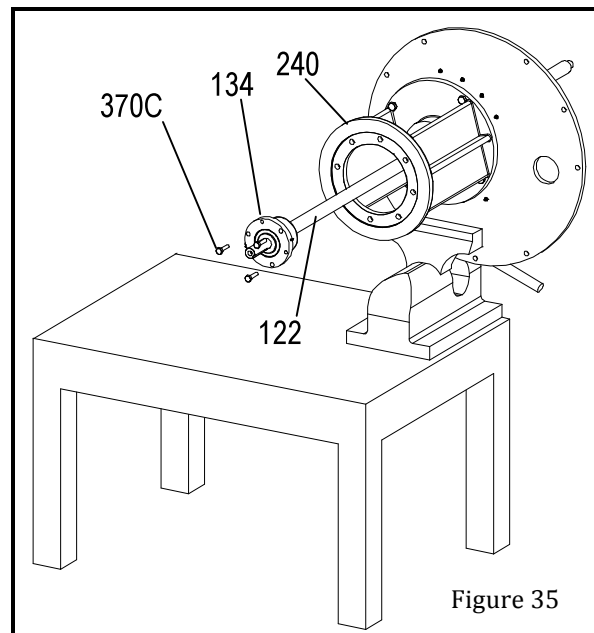

Figure 35
3. Install lockwasher (382) on shaft (122). Place tang of lockwasher in keyway of shaft.
4. Thread locknut (136) onto shaft (122). Tighten locknut until snug. Bend any tang of the lockwasher into one of the slots on the locknut. Tighten the locknut if necessary to align lockwasher tab with a locknut slot.
5. Press grease seal (333) into bearing shell (134). The seal is mounted with the lip out, facing toward the pump casing.
9. With the support plate in a vertical position, slide the shaft horizontally through the motor support. Support the shaft and column with suitable stands (Figure 35).
10. Install hold down bolts (370C) and jacking bolts (370D) with jam nuts (415).